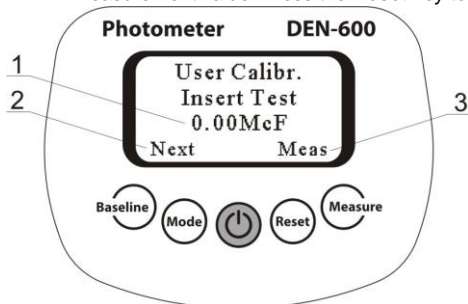

Figure 3. Creating user calibration
5.7. **Creating McF user calibration** (Figure 3).
- 5.7.6. Press **Baseline** key 5 times in McF mode to enter user calibration regime (Figure 3).
- 5.7.7. Insert the required McF standard (fig. 3/1) into the socket and press Meas (**Measure** key). If the required standard is not available press Next (**Baseline** key) to skip to the next standard.